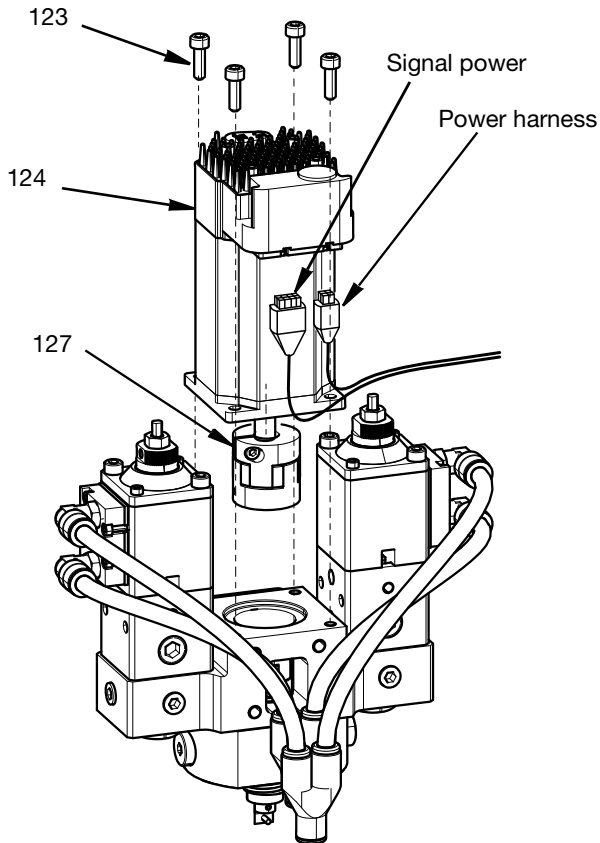

FIG. 49
5. Remove the four M5 x 16 screws (123) with a 4mm allen wrench.
6. Remove the motor(124). See FIG. 49,